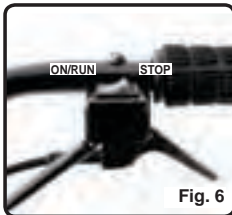

Fig. 6
- 2 Move the ignition switch to the "on" position (See Figure 6)
- 2 Push and hold the ignition switch to the 'stop' position (See Figure 6)